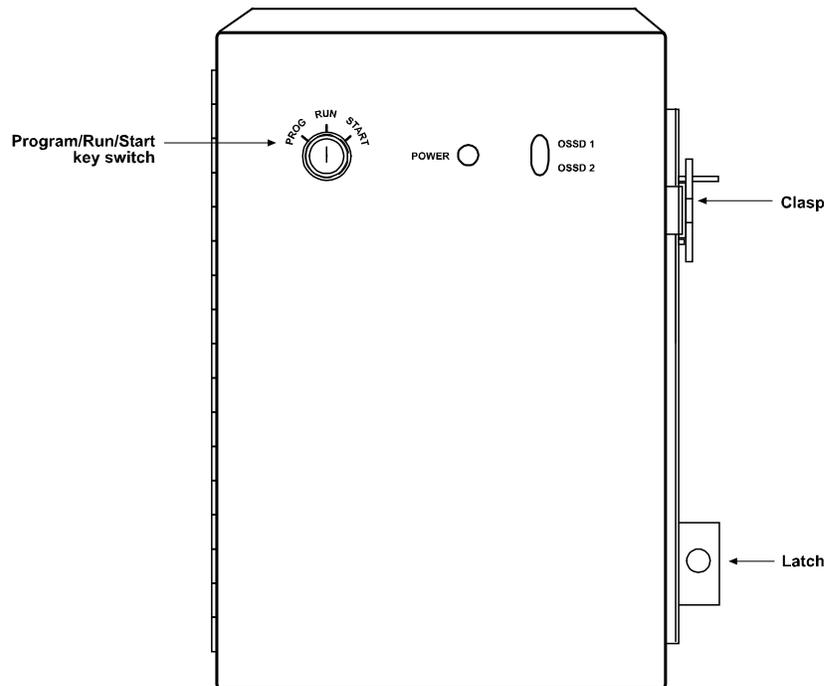

Figure 1-3. Shadow 9 Control
An optional Shadow 9 control (see *Figure 1-3*) is available. Use it unless you are connecting Shadow 9 to a Wintriss Clutch/Brake Control. The optional Shadow 9 control can accommodate any size of transmitter and receiver. No special settings are required. The optional Shadow 9 control contains a power supply and relay circuitry.
For added security, the optional Shadow 9 control comes standard with a key switch. The Program/Run/Start key switch is used alone to reset the light curtain after machinery has been stopped due to a fault (see *Figure 1-3*). The Program/Run/Start key switch can also be used to program a fixed blanking pattern. See *Programming a Fixed Blanking Window*, page 101, for details. In addition, the clasp which secures the door of the control can be padlocked to prevent unauthorized personnel from gaining entry. A screw-down latch for securing the door is also provided.
- Optional Shadow 9 control box: Power LED and safety relay LEDs (see *Figure 1-3*)
The ON/OFF LED illuminates red, the yellow INT-LK (interlock) LED illuminates, the two safety relays are “Open” (de-energized). The Interlock state can be cleared only when the sensing field is free of obstructions and the Program/Run/Start key switch is turned to the START position and released (see *Figure 1-3*, page 18).